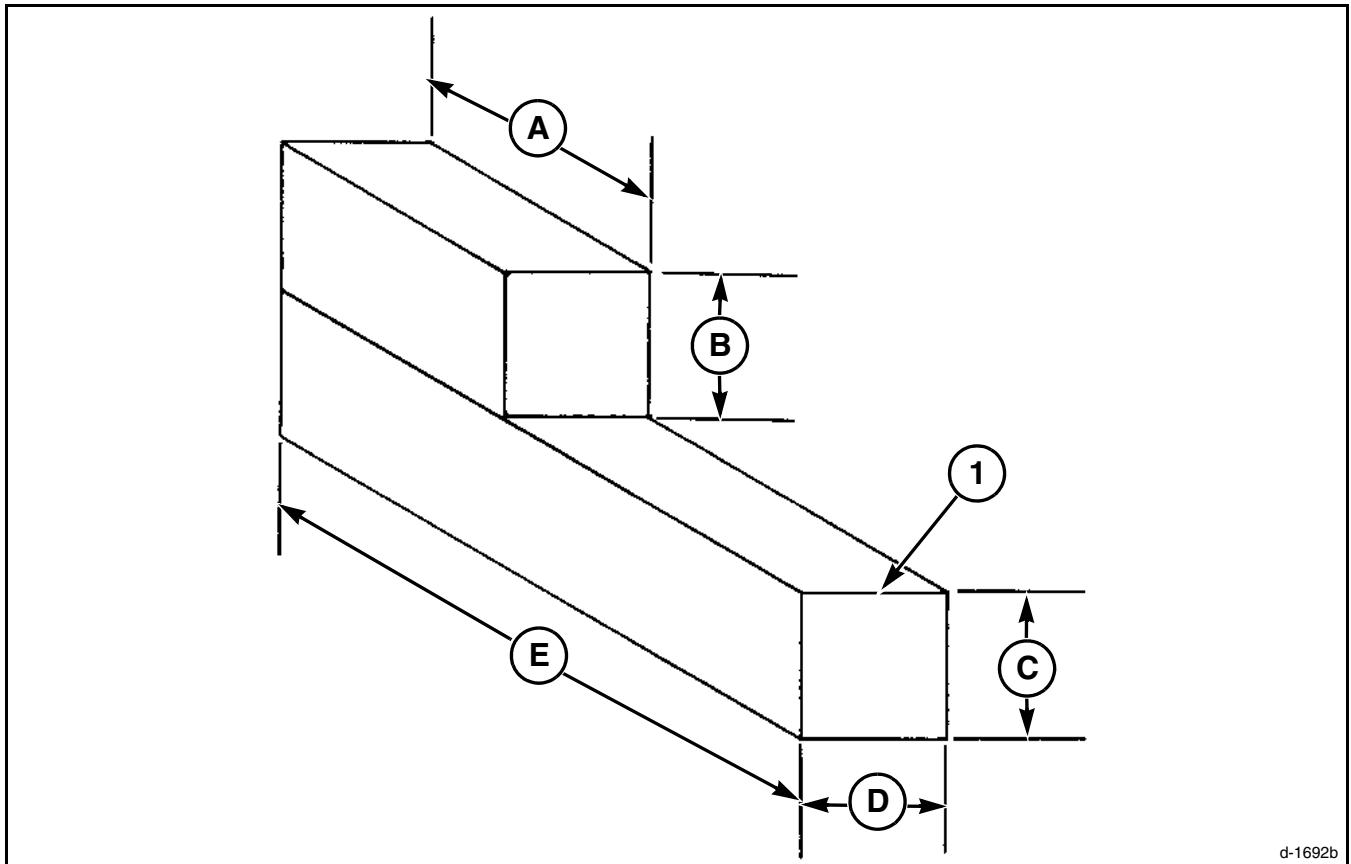

FIG. 49
FIG. 49: Position two header support blocks under the header with the 102 mm (4.0 in) section (1) to the rear. Place each support block an equal distance to the Left and Right of the feeder house opening in the head.